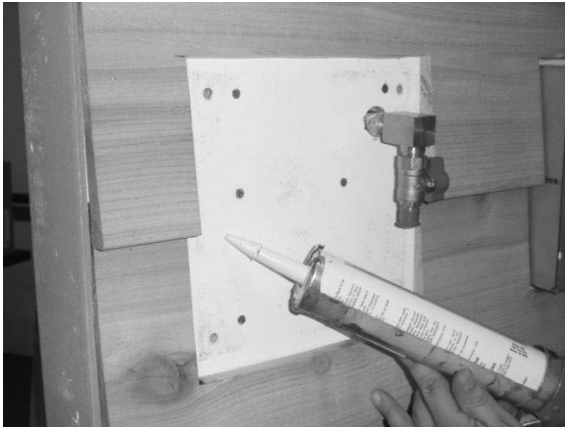
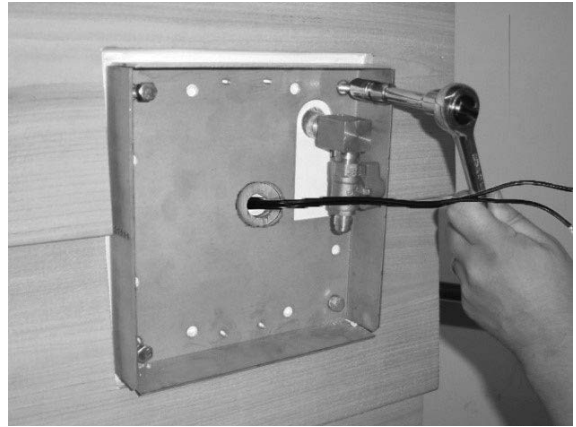
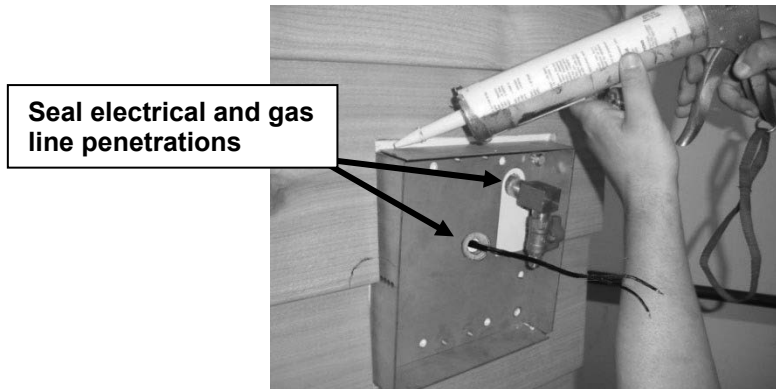

Figure 6
Figure 7
Figure 8
5. Remove and discard the templet used in step 3 (set the (4) lag bolts aside for reinstallation). Place a ¼" bead of silicone around the perimeter of the wall plate location (see Figure 6). This silicone will help weatherize the wall mount. **Seal the gas line and electrical penetrations and any exposed exterior sheeting at this time.** Secure the wall plate to the wall using the four lag bolts used to secure the templet in step 3 (see Figure 7) or other suitable means. Once the wall plate is in place, you may wish to seal the area around the perimeter of the wall plate if it is exposed to weather (see Figure 8). Make sure the sealant does not interfere with the cover plate – wipe off any excess sealant before proceeding.